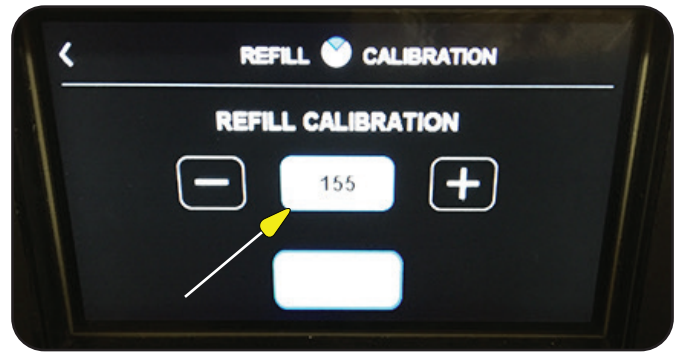

FIG. 35-2 DEFAULT REFILL THRESHOLD #
5. The Factory Refill Threshold A/D default number (155) can be viewed or calibrated by entering the software "Service Icon" and entering the Refill Calibration menu. (Fig. 35-2)
6. A Factory Default Refill Threshold (155) number is the On/Off trigger point for the inlet solenoid valve.